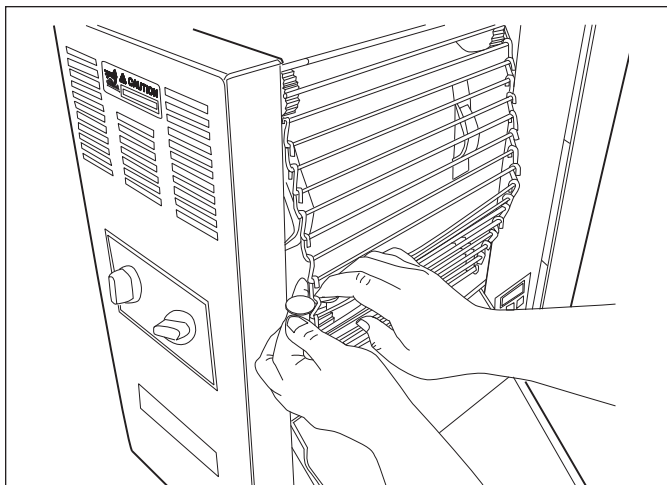

Figure 8. Measuring Conveyor Belt Chains
4. Disconnect the Conveyor Belt chain by squeezing any two links together and unhooking both ends of one link (Figure 8). A needle-nose pliers may be required. Remove the Conveyor Belt chain.
2. Place the replacement Conveyor Belt Chain on the top sprockets. Check for correct positioning (Figure 8).
Conveyor Belts chains installed incorrectly	Install conveyor belt to match diagram in Fig. 8 (page 11). Be sure that ends of the hooks are facing down.